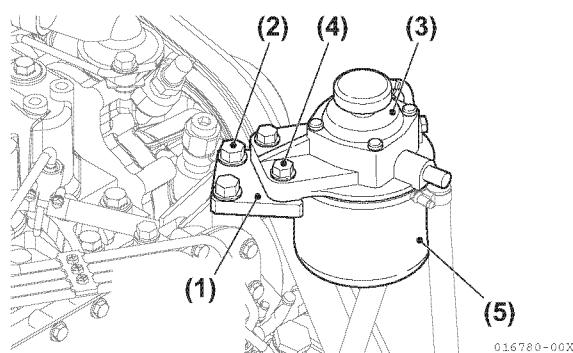

Figure 5-198
68. Install the fuel filter bracket on the intake manifold (**Figure 5-198**).
69. Install the fuel filter (**Figure 5-198**).